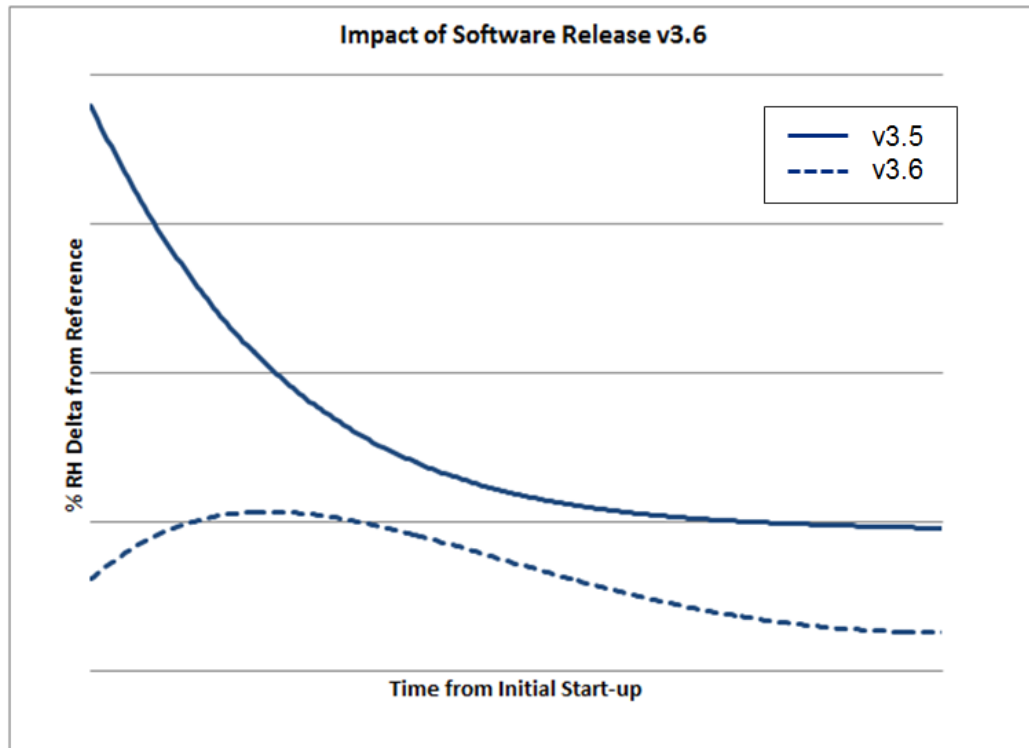

Figure 2: Humidity accuracy for a unit running v3.5 vs. v3.6
- Software v3.6.0.947 – Includes improvements to the temperature compensation algorithms as shown in Figure 2. The software release reduces the initial power-up inaccuracy and improves the settling time. The software was released to the field mid-June.